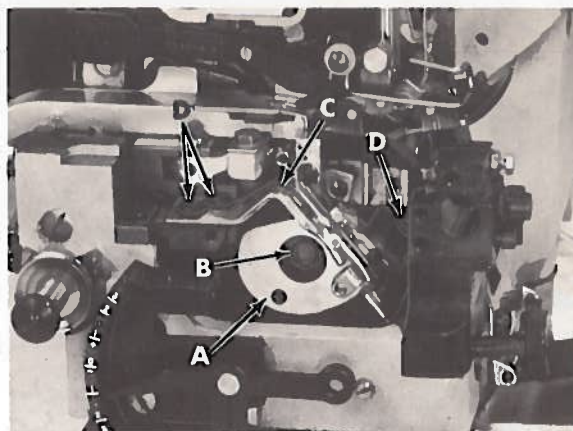

Fig. 37
To set 401 looper thread cam take-up (A, Fig. 37), loosen nut (B) and position cam take-up so its longest flat is parallel with cast-off plate (C). Torque nut (B) to 24 - 25 in/lbs. (28-29 cm/kg).